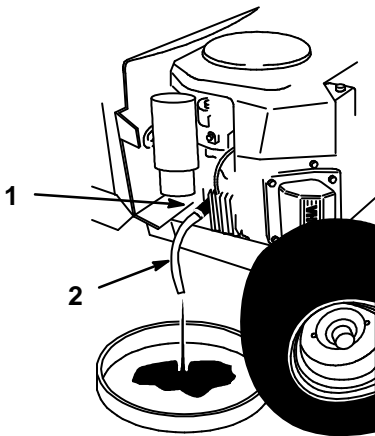

Figure 19
5. Place a pan below the oil drain. Open the drain by turning counterclockwise, 1/8 turn. and pull out (Fig. 19).